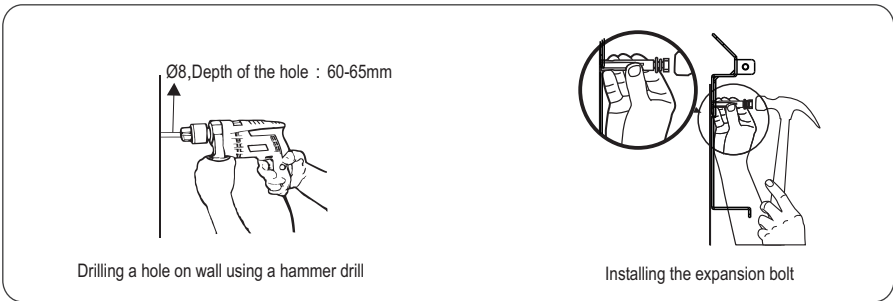

Figure 4.12 Drilling a hole and installing expansion bolts (unit: mm)
**Step 4** Drill holes using a hammer drill and install expansion bolts, as shown in Figure 4.12.